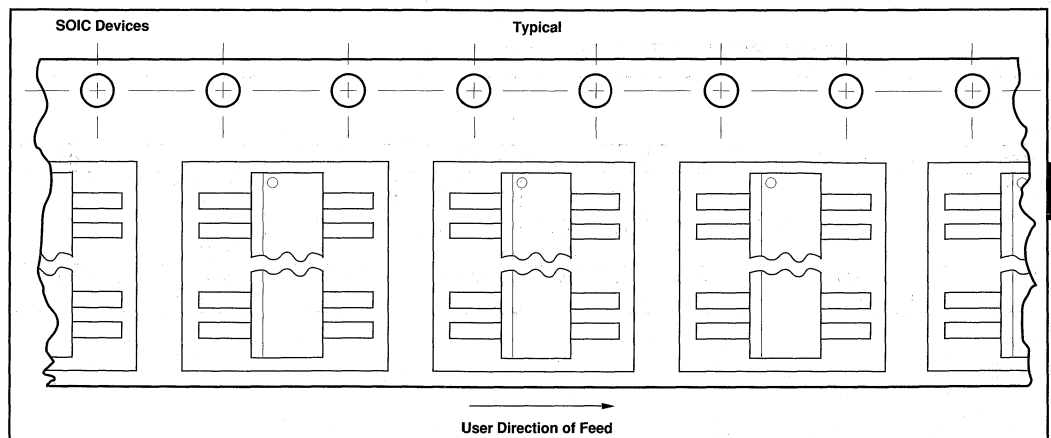

FIGURE 2.
(7) N is the maximum number of terminal positions.
(8) Corner leads (1, 4, 5, and 8) may be configured as shown in Figure 2.
(9) For automatic insertion, any raised irregularity on the top surface (step, mesa, etc.) shall be symmetrical about the lateral and longitudinal package center-lines.